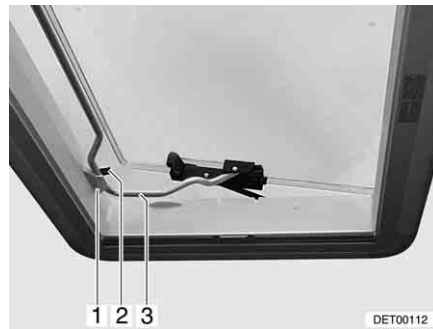

Fig. 66 Heki skylight in ventilation position 2
- Insert the bar (Fig. 66,3) into the holder (Fig. 66,1).
- Place the lever (Fig. 66,2) over the bar.